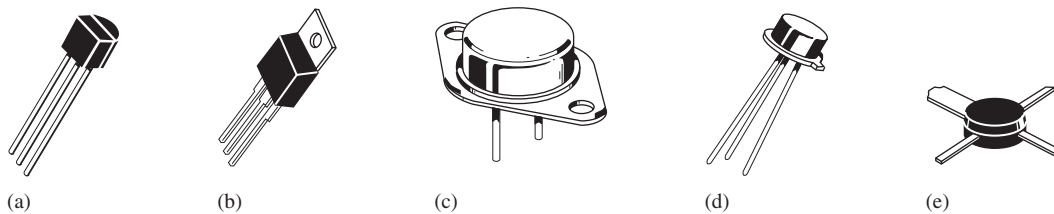

FIGURE 3-80
- 36. What is the most probable category of each transistor in Figure 3-80?